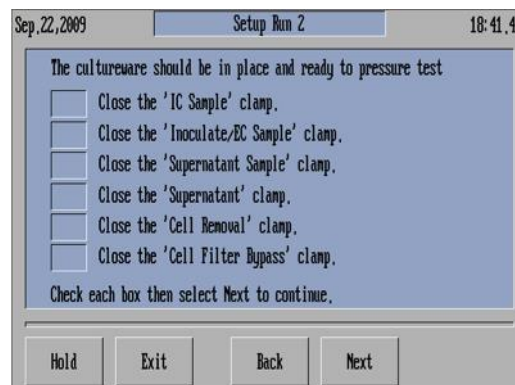

Figure 8-21: Setup Run 2 Screen
14. Simplified cultureware differ in the name and number of tubing clamps from standard cultureware. Close the following clamps, rather than the list specified in the *Setup Run 2* screen, figure 8-21: